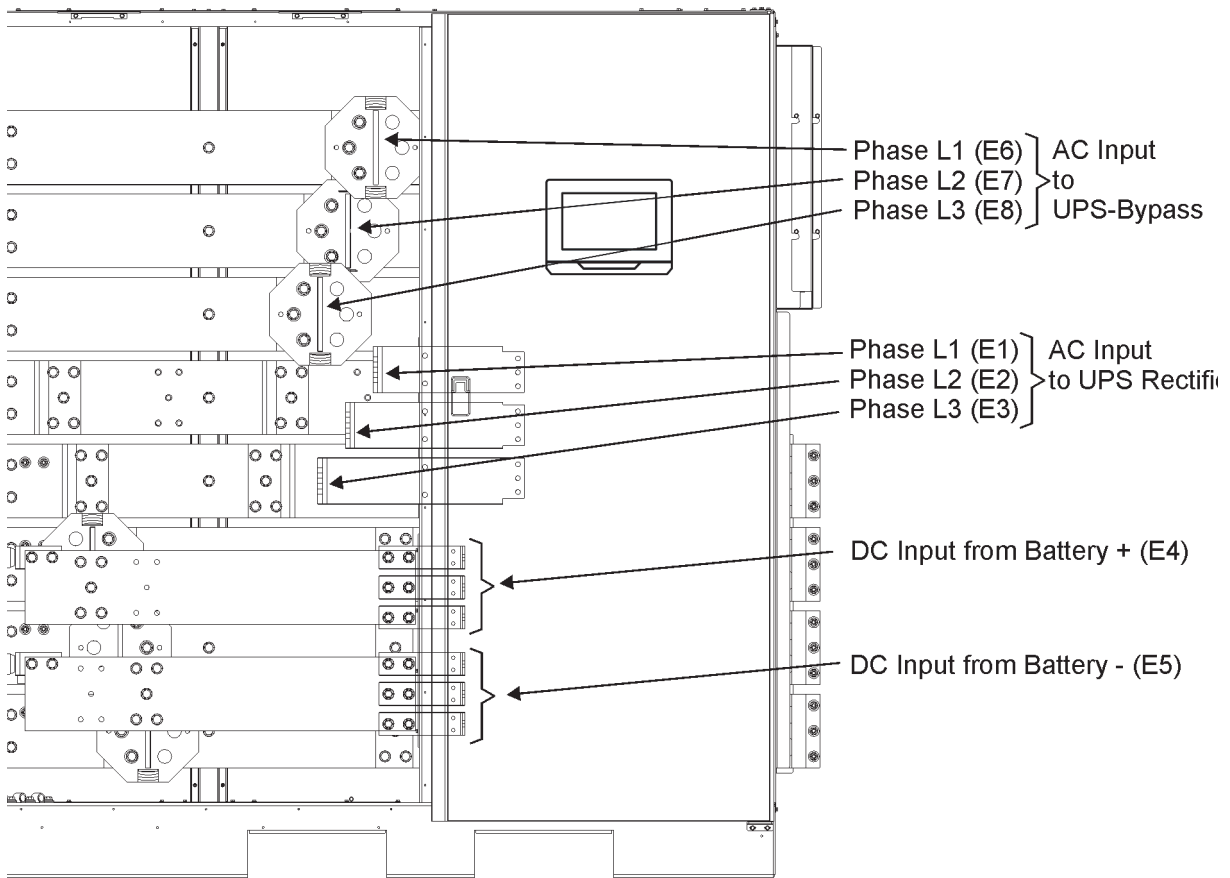

Figure 4-16. UPS ISBM section power terminal locations - common battery
3. Using hardware from the external wiring terminal hardware kit, connect the positive, negative, and ground DC power wiring from the battery system or disconnect to the UPS ISBM section battery and ground terminals. Use both sets of terminals shown in Figure 4-16 as needed. See Section 3.2.2 on page 19 for wiring and termination requirements.